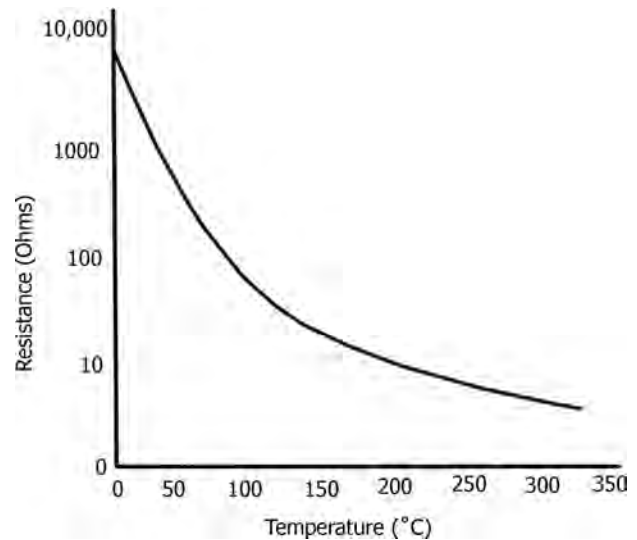

FIGURE 8.4 Resistance—temperature curve of a thermistor.
- Thermistors are based on resistance change in a ceramic semiconductor. The resistance drops non-linearly with temperature rise as shown in Figure 8.4.
- The nonlinear characteristics are illustrated in Figure 8.4.